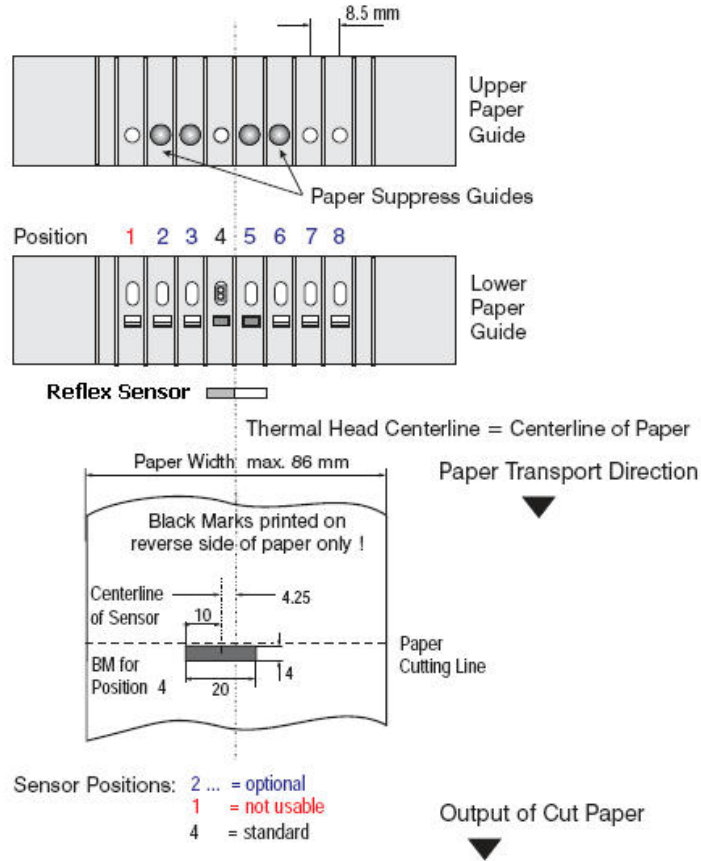

Figure 8
The Black Mark sensor (which also functions as a “paper present” sensor) on the XPM 80™ printers can be located in numerous positions during manufacturing. Figure 8 shows where the black marks should be located in order to be detected when a reflex sensor is used. The default (standard) sensor positions are so marked.
The XPM 80™ printer is designed to allow for numerous Paper Entrance/Black Mark sensor locations during manufacturing (The location of this sensor cannot be changed once the printer is built). Also, two different sensor types can be used. The most common is the reflex or reflective sensor, where the light source and detector are located on a single chip. Basically, the light strikes the white paper surface and reflects back into the sensor. If enough light reflects to activate the sensor, the printer reports that paper is present. If there is not enough light reflected, the printer assumes that this area is black, meaning the printer is on a black mark or the printer is out of paper. Black marks must be located on the back (non-coated) side of the thermal paper. There are seven (7) different possible positions for this sensor. The positions of these sensors are detailed in Figure 8 (Please note that sensor position 1 is not usable). The default (standard) positions are so marked. Please note that sensor locations other than the default location are intended for OEM applications.